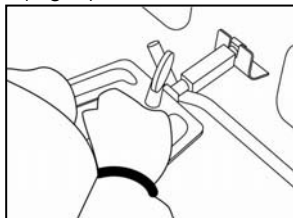

Fig. 4
10. Using the rotisserie handle, insert the pointed end of the rotisserie skewer into the drive socket located on the left hand side of the oven wall. Then make sure that the square end of the skewer rests on the rotisserie skewer supports located on the right hand side of the oven. (Fig. 4)